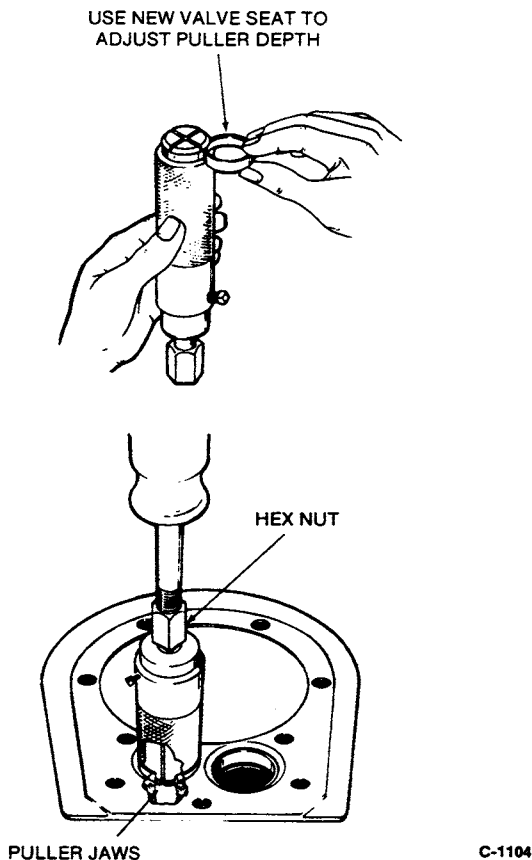

FIGURE 4. VALVE SEAT REMOVAL
**Valve Seat Removal:** Remove carbon and combustion deposits from valve seat. Select proper puller size determined by inside diameter of valve seat. On some pullers use a new seat as a guide to adjust puller depth (Figure 4). Puller jaws must expand into cylinder block at the point where bottom of valve seat insert rests on cylinder block. Position puller on valve seat and tighten hex nut. Clamp cylinder block to a solid bench. Attach slide hammer to puller. Tighten hex nut between each blow with the slide hammer.